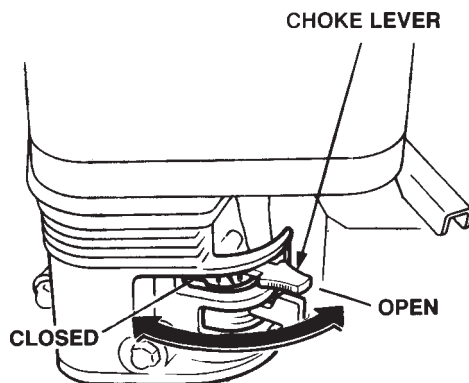

Figure 11. Choke Lever
3. Place the **Choke Lever** (Figure 11) in the "OPEN" position.
6. If the engine has started, slowly return the choke lever (Figure 11) to the **CLOSED** position. If the engine has not started, repeat steps 1 through 5.